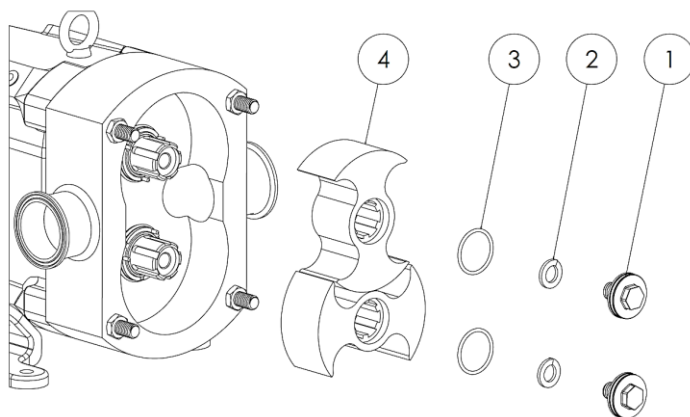

Figure 27: Fluid End Exploded View
3) Remove the rotors by orientating them perpendicular to each other and then pulling them out. It is important to be cautious with the rotors so that they are not damaged. For mechanical seals, the rotating seal typically stays in the rotor during removal (use caution). If rotors are difficult to remove, use a nylon or wood lever to pry them out without damaging the body or the rotors. If necessary, remove the body hold down nuts and tap the body forward to loosen the rotors. Use Figure 27 to ensure that all parts are removed.